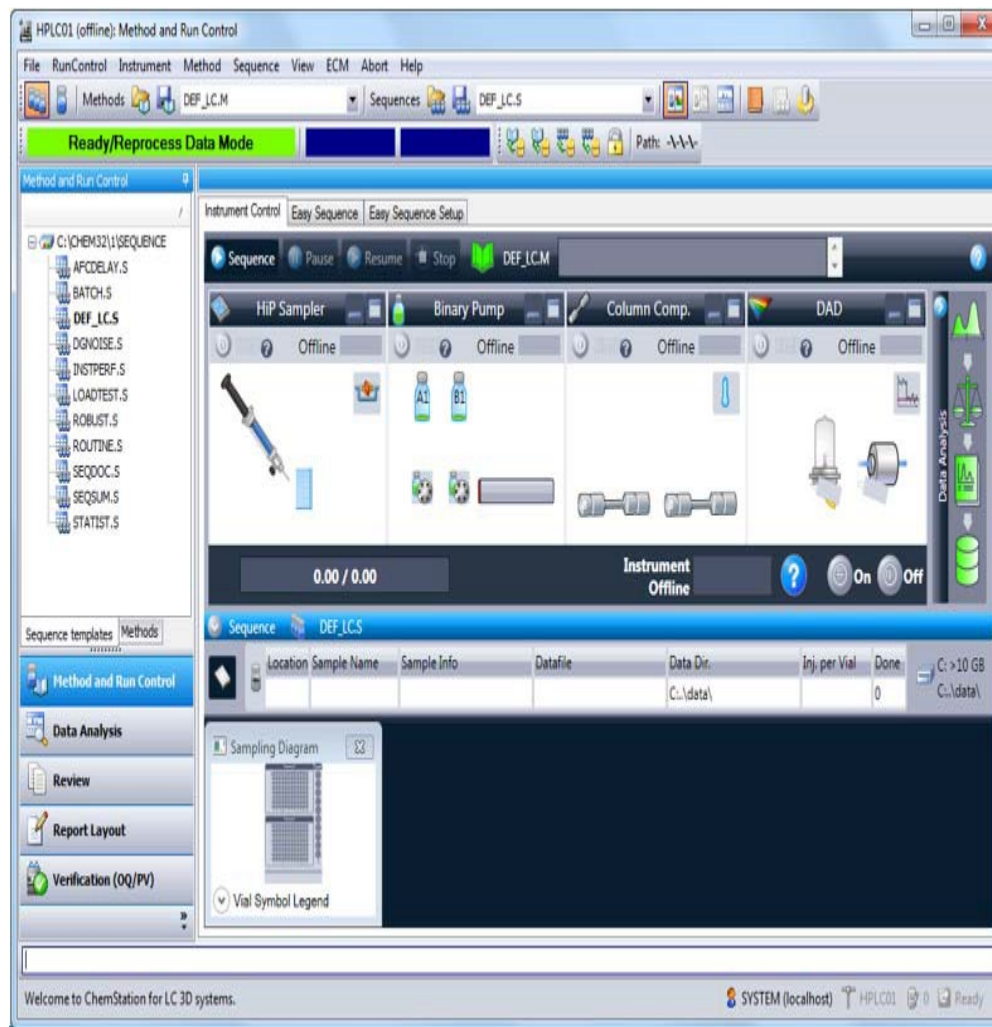

Figure 3: ChemStation User Interface (UI)
7.4 Successful instrument launch will allow access to ChemStation User Interface (UI)(Figure 3)